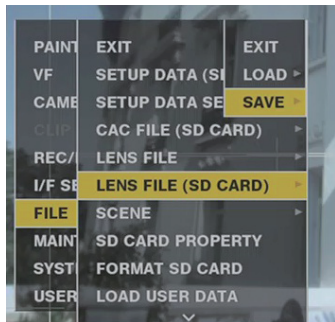

Fig. 1
- 1 Select [SAVE] in the main menu → [FILE] → [LENS FILE (SD CARD)], and press the jog dial button (or <SET> button). (Fig. 1)